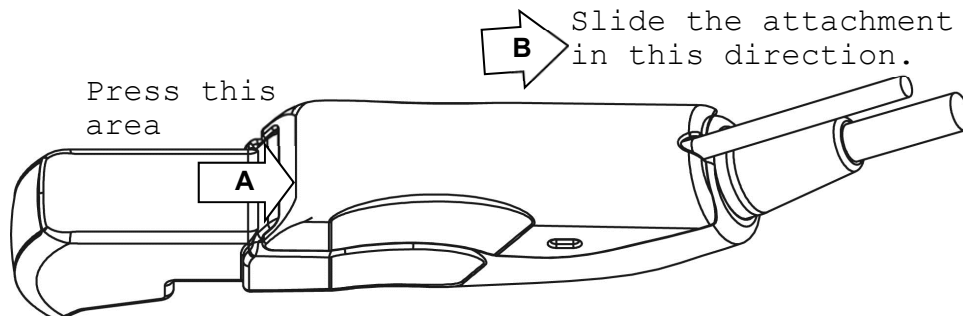

Fig. 19 How to release the attachment from the probe
- 1) Press the area of the attachment shown with the arrow toward the direction A, and then slide out the attachment toward the direction B as shown in Fig. 19.